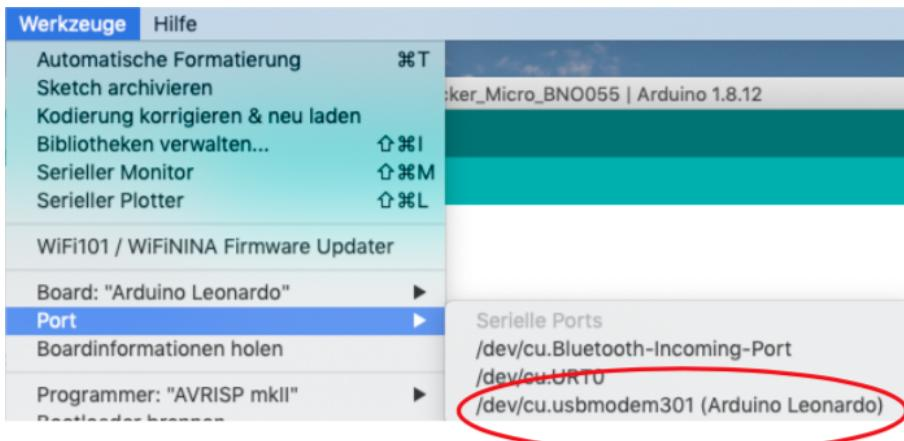

Figure 7: Port “(Arduino Leonardo)”
Step 9.4: Choose the belonging Port “(Arduino Leonardo)” in the tools section (Figure 7).